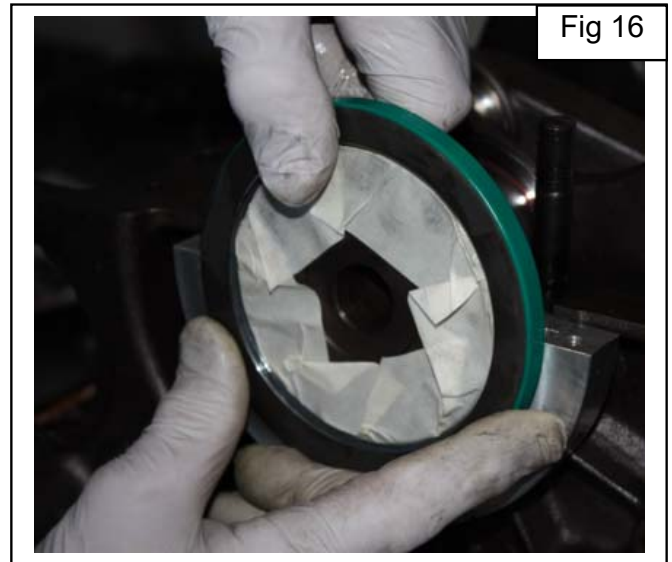

Fig 16
► (Fig 16) Hold the seal with the lip (open part) of the seal facing forward (toward the engine). Carefully work the new oil seal over the Speedi-Sleeve or flange. When the seal is on the flange, make sure the rubber portion has not rolled back onto itself. Remove the masking tape (if used).